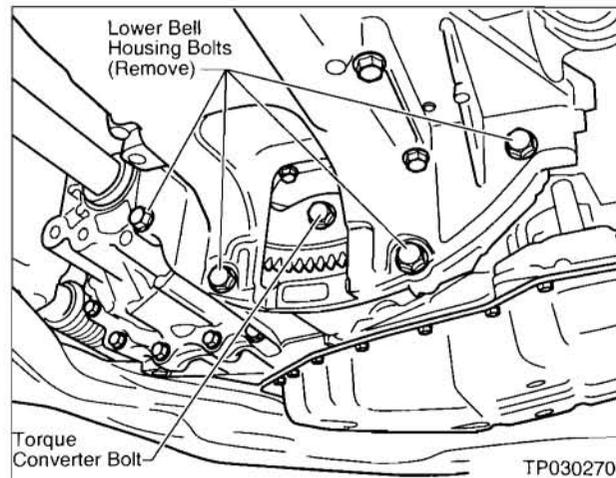

Figure F8
- Remove the Torque Converter and **Lower** Bell Housing Bolts before removing the engine. It's easier to do this before the engine is out of the vehicle (see Figure F8).